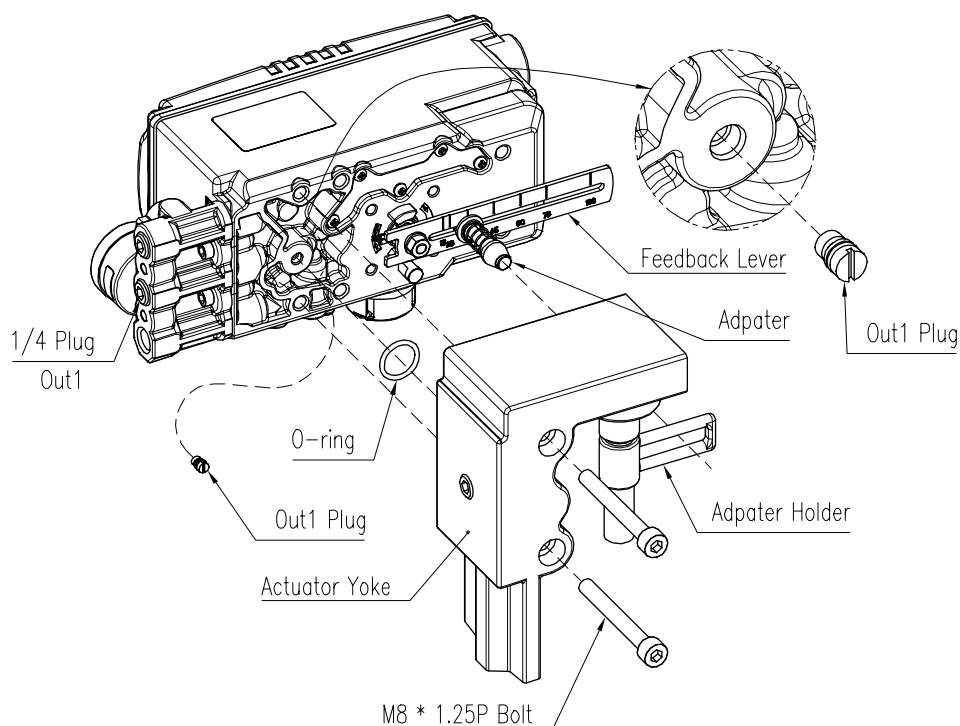

Fig. 3-19: Installing the positioner on the actuator
1. Remove Out1 Plug(Fig. 3-19) on the bottom of the positioner. Plug up out1 port of gauge block with 1/4 plug using sealant.